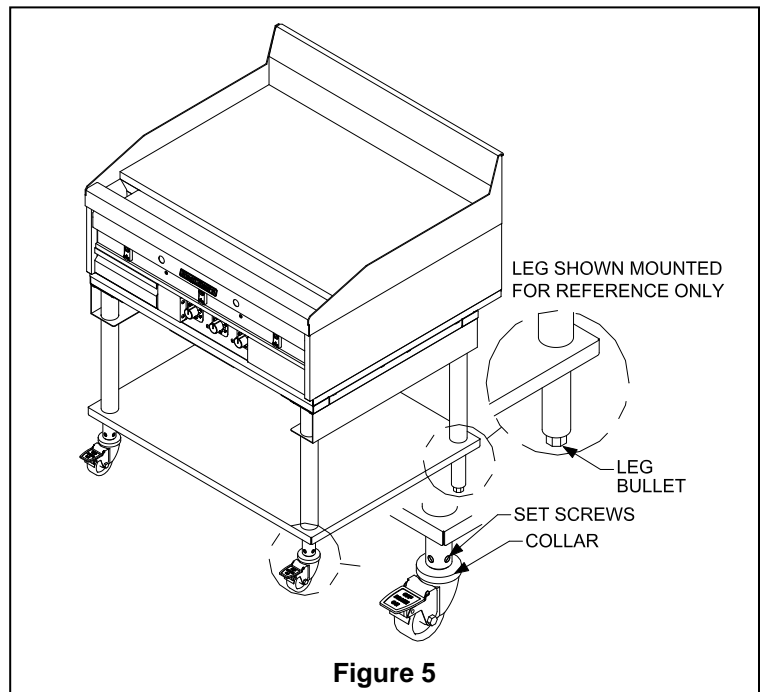

Figure 5
2. **Legs-** using a wrench, or pliers turn the leg bullet, See Figure 5, CCW to raise the height of the equipment stand. There is $\frac{1}{2}$ " (13mm) to $\frac{3}{4}$ " (19mm) of adjustment.
Casters- Using a Flat Head screwdriver, loosen the set screws of the caster to be leveled, See Figure 5. Turn the collar of the caster CCW to raise the height of the equipment stand. There is $\frac{3}{4}$ " (19mm) of adjustment.